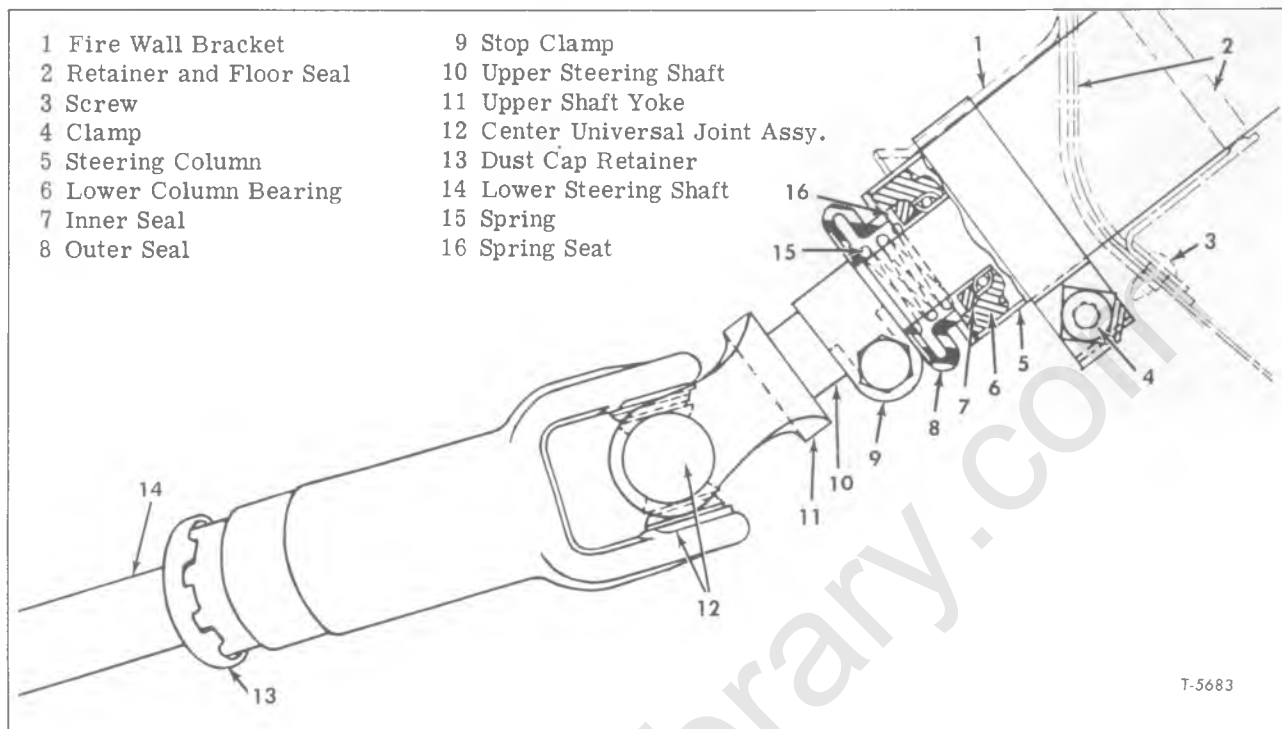

Figure 2—Steering Column Stop Clamp Components
4. Adjust "stop" clamp at bottom of steering shaft to allow 0.012" to 0.015" up and down movement of the upper shaft assembly (fig. 2).